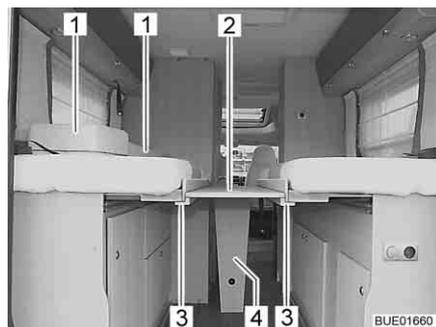
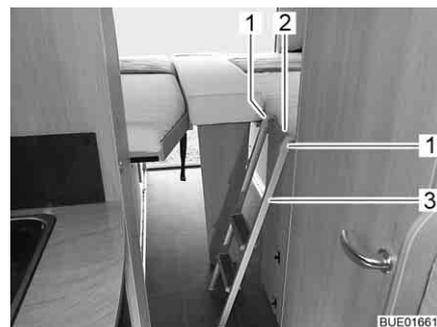

Fig. 85 Bed widening, fitted
Fig. 86 Access ladder
- Fold out the support (Fig. 85,4) of the bed widening (Fig. 85,2).
- Place the bed widening onto both support brackets (Fig. 85,3) of the slatted frames such that the rear edge of the bed widening is flush with the slatted frames (Fig. 85).
- Place two additional cushions (Fig. 85,1) on the bed widening (Fig. 86).
- Hook access ladder (Fig. 86,3) to the slatted frame by attaching the two hooks (Fig. 86,1) to the bar (Fig. 86,2).